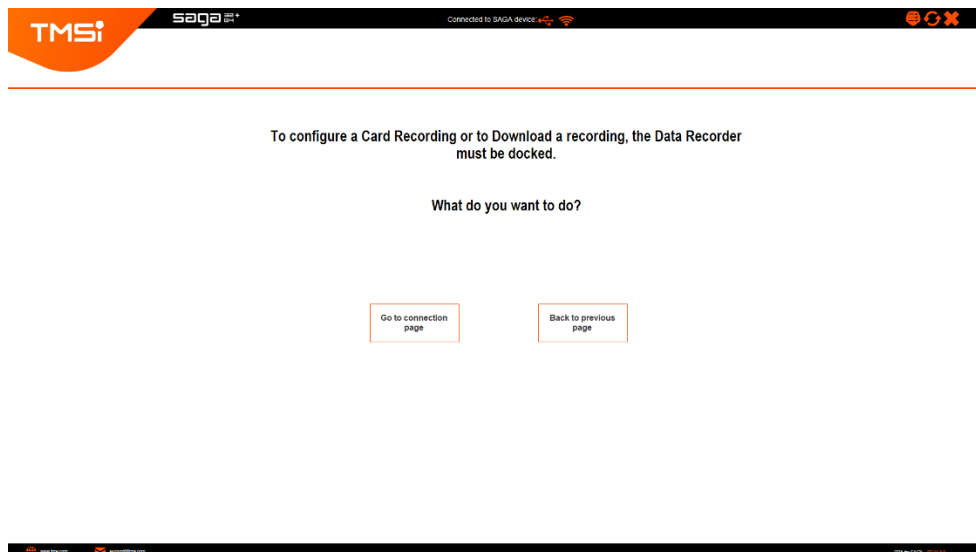

Figure 36: QRA screenshot - Card Recording message when device is not Docked
A card configuration or card download is only possible when the device is Docked. When the user tries to open the Card Recording page when the device is not Docked the user will get two options: (1) either to be redirected to the connection page and afterwards switch to the Docked interface or (2) to go back to the previous page from where the Card Recording button was pressed (Figure 36).